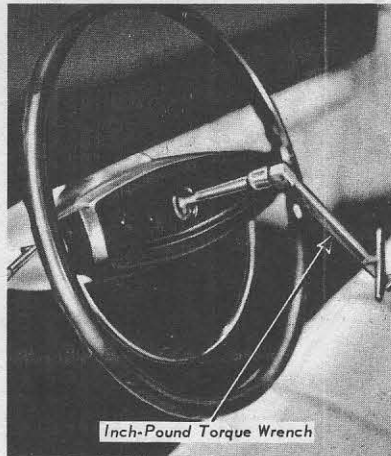

Fig. 11.21 Checking steering gear preload (Sec 17)
- 3 Using a torque wrench on the steering wheel nut (see Fig. 11.21) and with the steering wheel off-center, check that the pull required to rotate the input shaft about $1\frac{1}{2}$ turns, either side of center, is within the limits specified (see Specifications at the beginning of this Chapter).